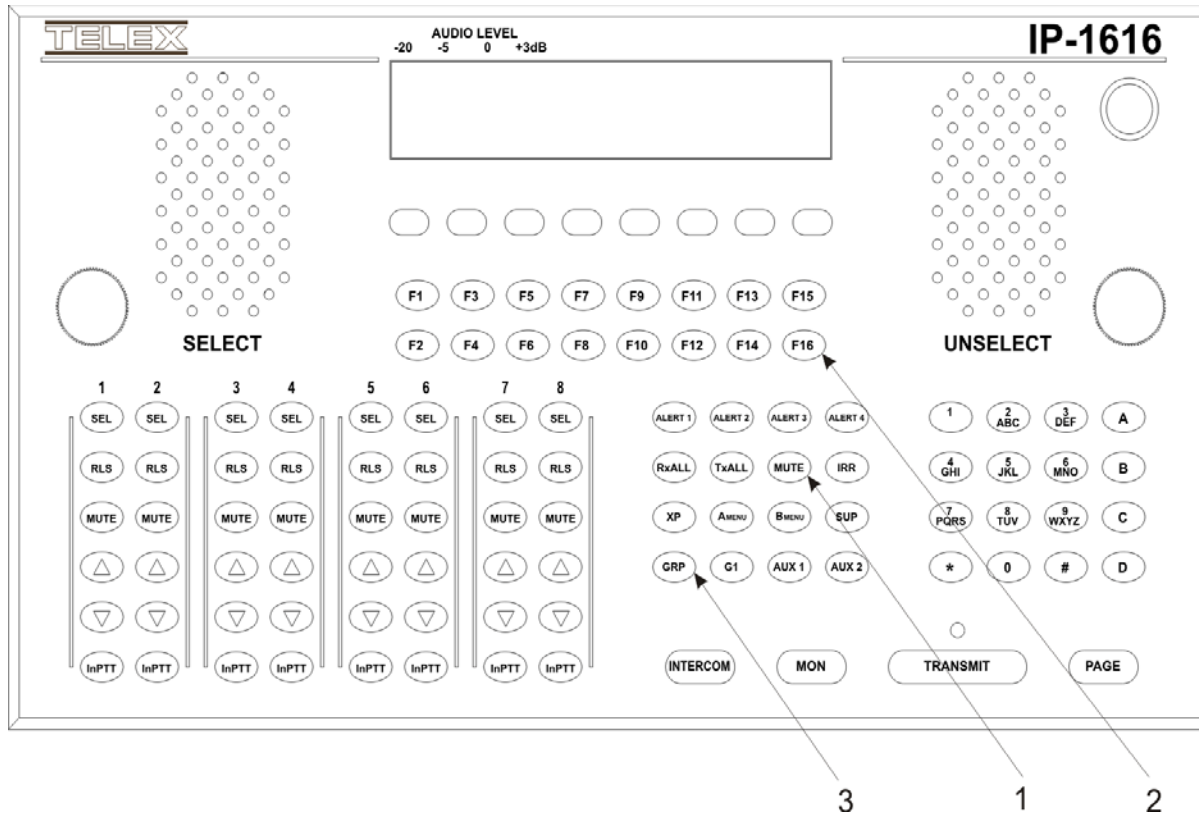

FIGURE 17. Enter Programming Mode Buttons
- > On the IP-1616 keypad, press and hold the console **MUTE** button, **F16** and the **GRP** button, in that order. *One of two menus appear on the console display PIN Login screen or Console Programming Mode, See Figure 17.*